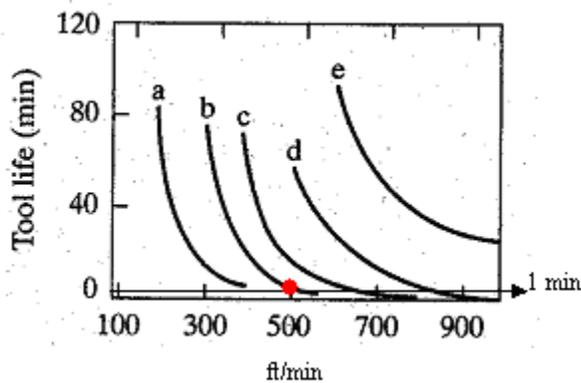

Fig. 1-4 Tool life measurement curve.
e) The life of the HSS tool material has been tested as curve b in Fig. 1-4.
Look at the relationship when $T = 1$ min. This makes $V = C$. If you trace along the 1 min. line in Figure 1-4, you'll see that $V = 500 = C$ at the red mark. Now you can predict the life of the tool with $n = 0.2$ and $V = 1860$ in./min. as you found above.